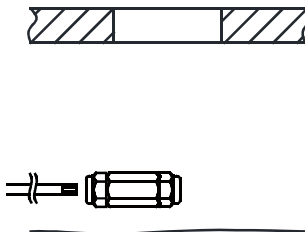

Fig 1.2
1.2 Connect the 12/24V supply cable via waterproof junction box or connector. (See Fig 1.2)